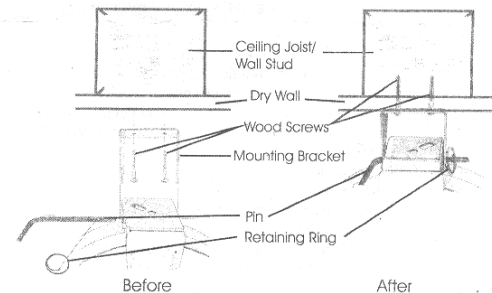

Figure 1
5. Place the retaining ring on the pin and twist until all of the ring is through the hole in the pin. **DO NOT** operate this reel without the retaining ring in place on the pin. (see Figure 1)